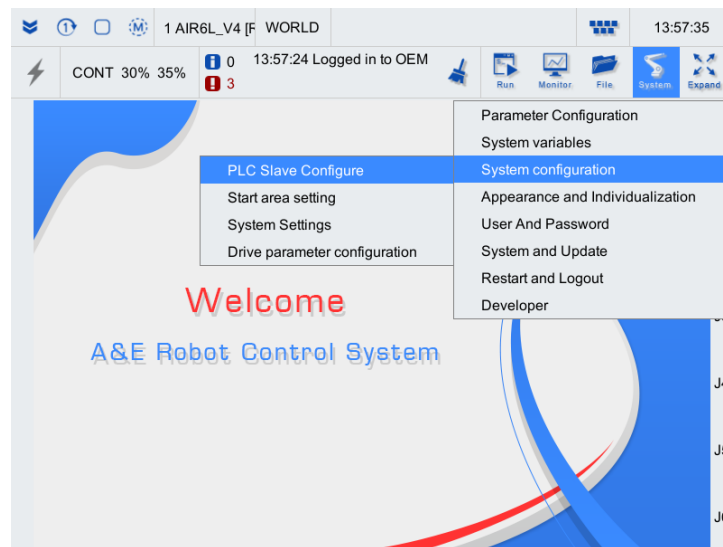

Fig. 2-15 Configuration selection of PLC slave
- Step 1. On the main interface of the teach pendant, click "System"->"System Configuration"->"PLC Slave Configuration" option, as shown in Fig. 2-15.